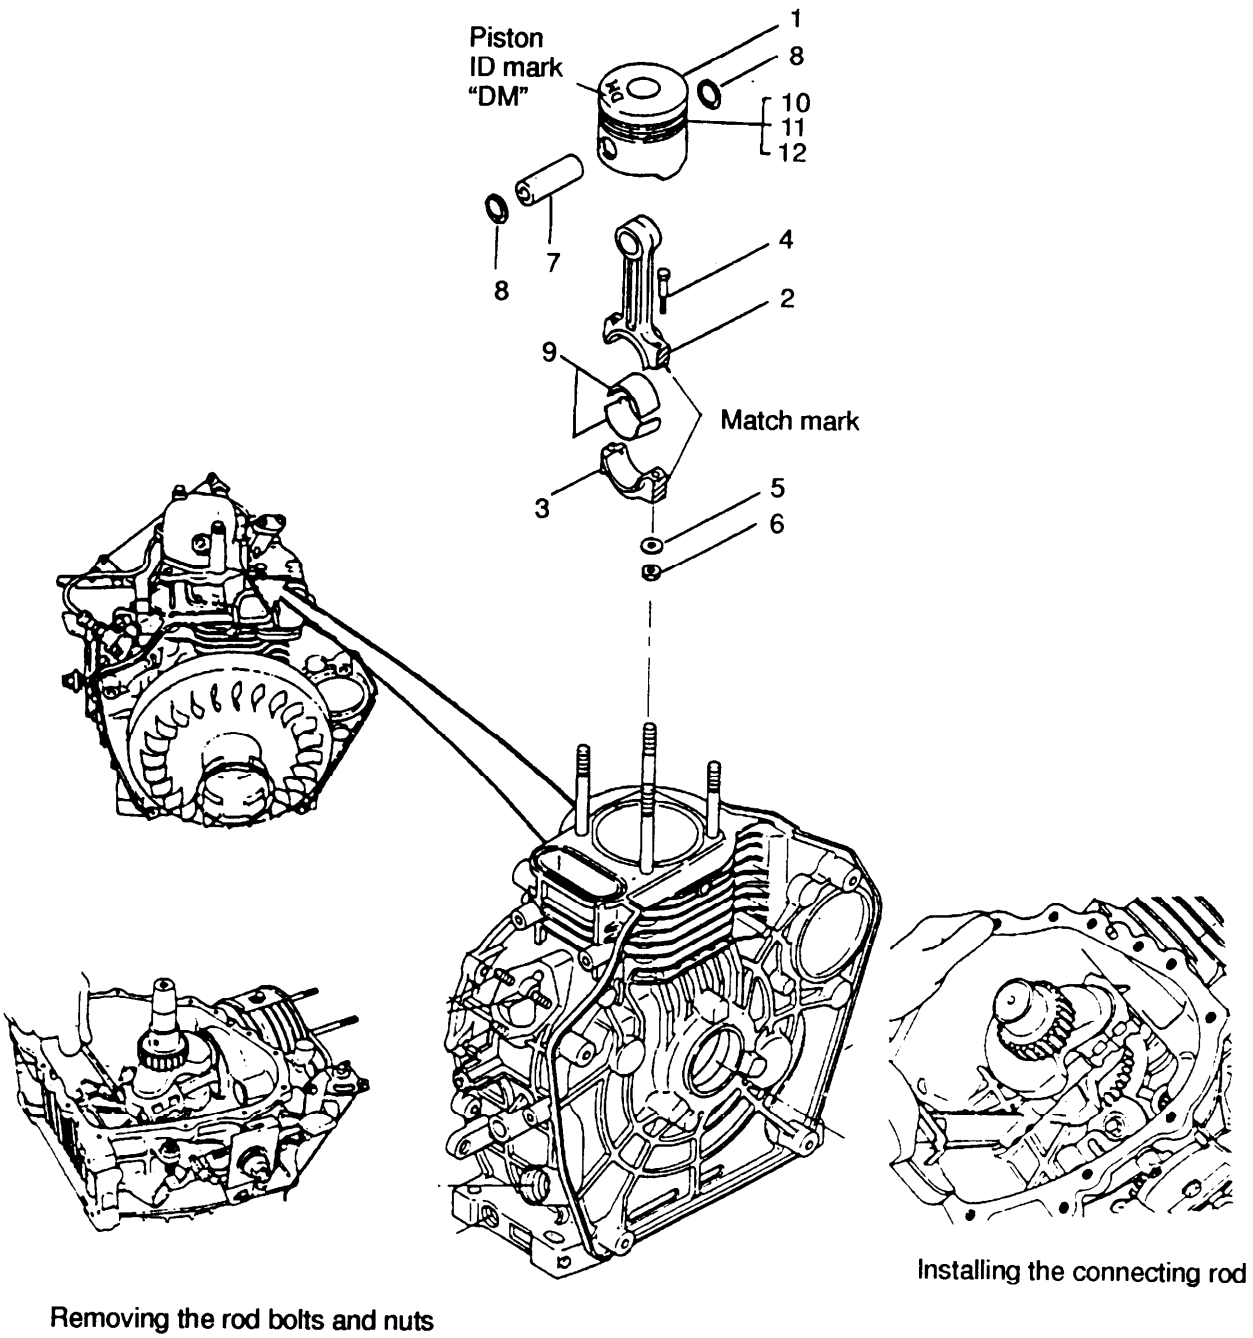

Figure 5-31. Removing and Installing Piston
- i. Install crank pin bearing insert (refer to 9, Figure 5-31) into connecting rod (refer to 2, Figure 5-31).
- l. Insert crank pin bearing insert (refer to 9, Figure 5-31) into connecting rod cap (refer to 3, Figure 5-31).
- m. Refer to Figure 5-31 and install the connecting rod cap (3) using bolts (4), washers (5), and nuts (6). Rotate flywheel so piston is at bottom dead center. Always use a washer for the tightening nuts. Tightening torque for connecting rod bolts is 13.0-14.5 ft-lb (190-200 cm-kg).